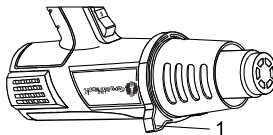

Fig. 4
When heat gun is hot, always place it up side down on its safety stand (1) (Fig. 4).